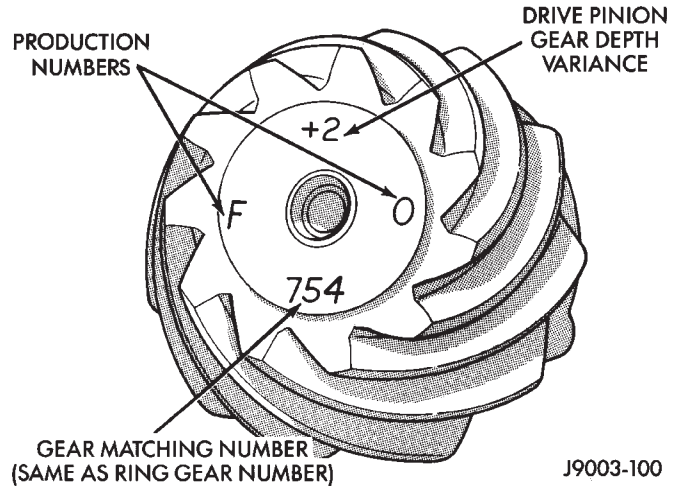

Fig. 54 Pinion Gear ID Numbers
Ring and pinion gears are supplied as matched sets only. The identifying numbers for the ring and pinion gear are etched into the face of each gear (Fig. 54). A plus (+) number, minus (-) number or zero (0) is etched into the face of the pinion gear. This number is the amount (in thousandths of an inch) the depth varies from the standard depth setting of a pinion etched with a (0). The standard setting from the center line of the ring gear to the back face of the pinion is 92.08 mm (3.625 in.). The standard depth provides the best gear tooth contact pattern. Refer to Backlash and Contact Pattern Analysis paragraph in this section for additional information.
(9) Select a shim equal to the dial indicator reading plus the drive pinion gear depth variance number etched in the face of the pinion gear (Fig. 54). For example, if the depth variance is -2 , add $+0.002$ in. to the dial indicator reading.